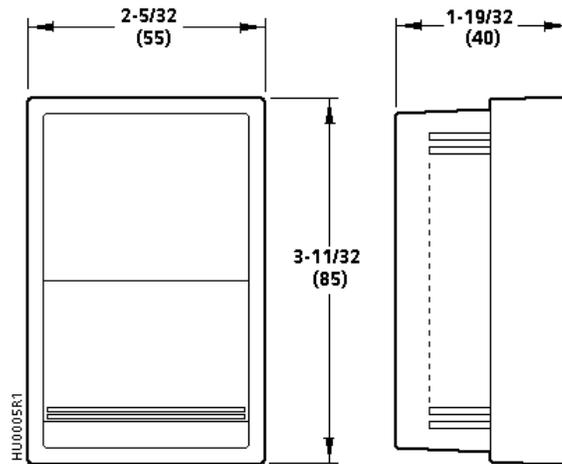

**Figure 8. Hygrostat Construction.**
Item numbers in parentheses are called out in Figure 8 and Table 2. Clean the membrane element (13) with a soft, dry brush when dirt or dust accumulates. The hygrostat should not be totally disassembled in the field. The only parts which should be replaced are items (5) through (7), (10) through (13), and (16) in Table 2 and Figure 8. As an initial check, make certain that there is 15 to 25 psig of **clean, dry** supply air. Use a pressure gauge and rubber tubing to measure control pressure at the test screw (15).
**Table 2. Parts List for Hygrostat (Item Numbers See Figure 8).**